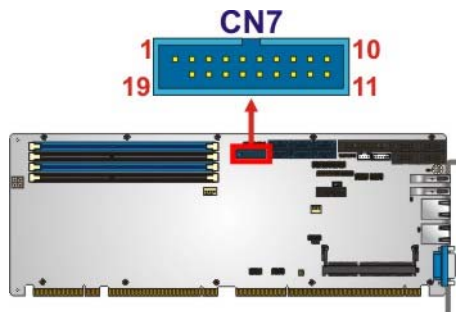

Figure 3-27: USB 3.0 Connector Location
- CN Location:** See **Figure 3-27**